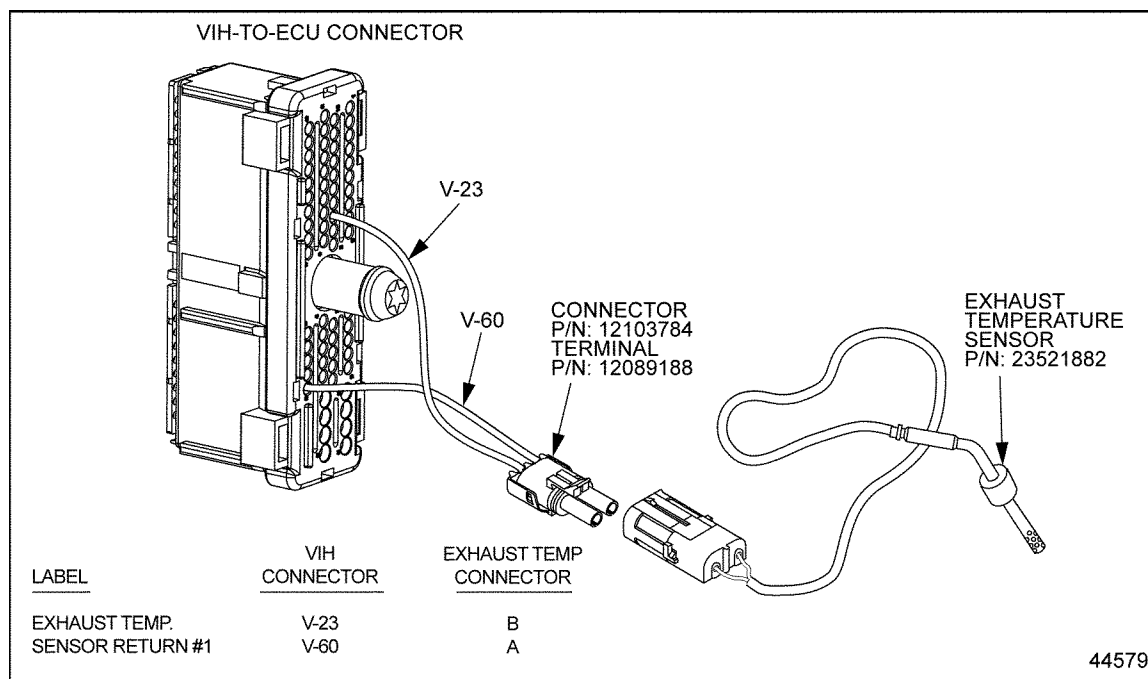

Figure 70-4 Exhaust Temperature Sensor
2. Install a jumper wire between the two pins at the ET Sensor. See Figure 70-4.
4. Measure resistance between V-60 of the VIH connector and V-23 connector; see Figure 70-4.
5. Remove the jumper and measure resistance again between V-60 and V-23; see Figure 70-4.